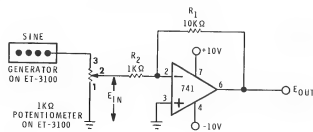
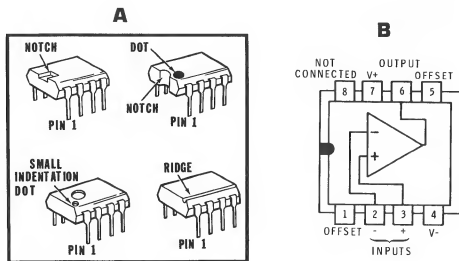

Figure 4-83
Figure 4-84
1. With the ET-3100 Experimenter off, construct the circuit shown in Figure 4-83. The pin configuration for the 741 op amp is shown in Figure 4-84.